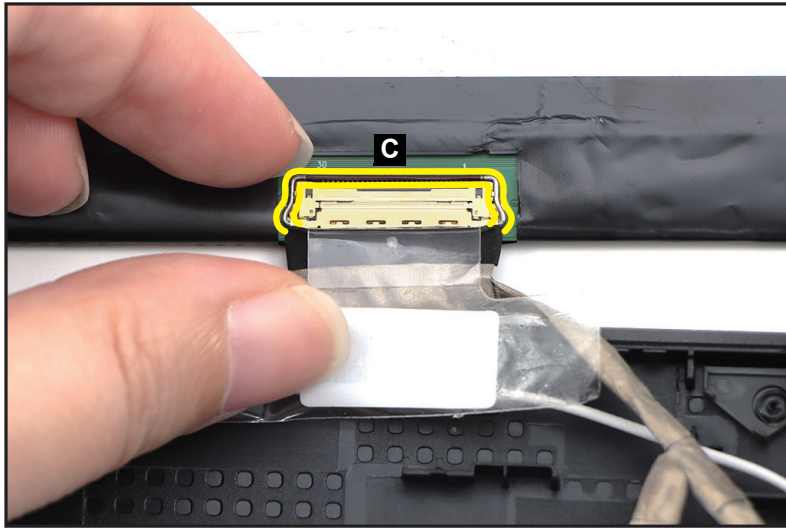

Figure 3-42. LCD Panel Removal
5. Lift the latch (C) securing the LCD cable (Figure 3-42).